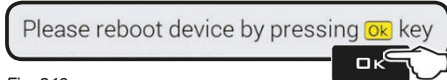

Fig. 310
- The message in Fig. 310 is displayed once loading is completed. Reboot the device by pressing key **OK**.